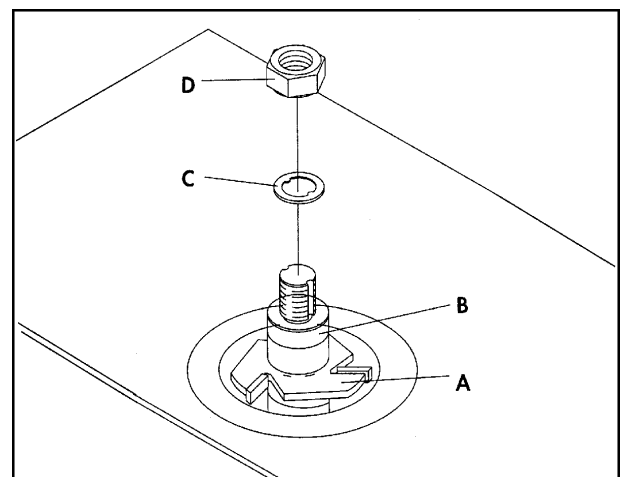

FIGURE 15
2. Place cutter (A) and desired spindle collars (B) on the spindle as shown in Figure 15.
3. Install keyed washer (C) and tighten nut (D) using the supplied wrench.